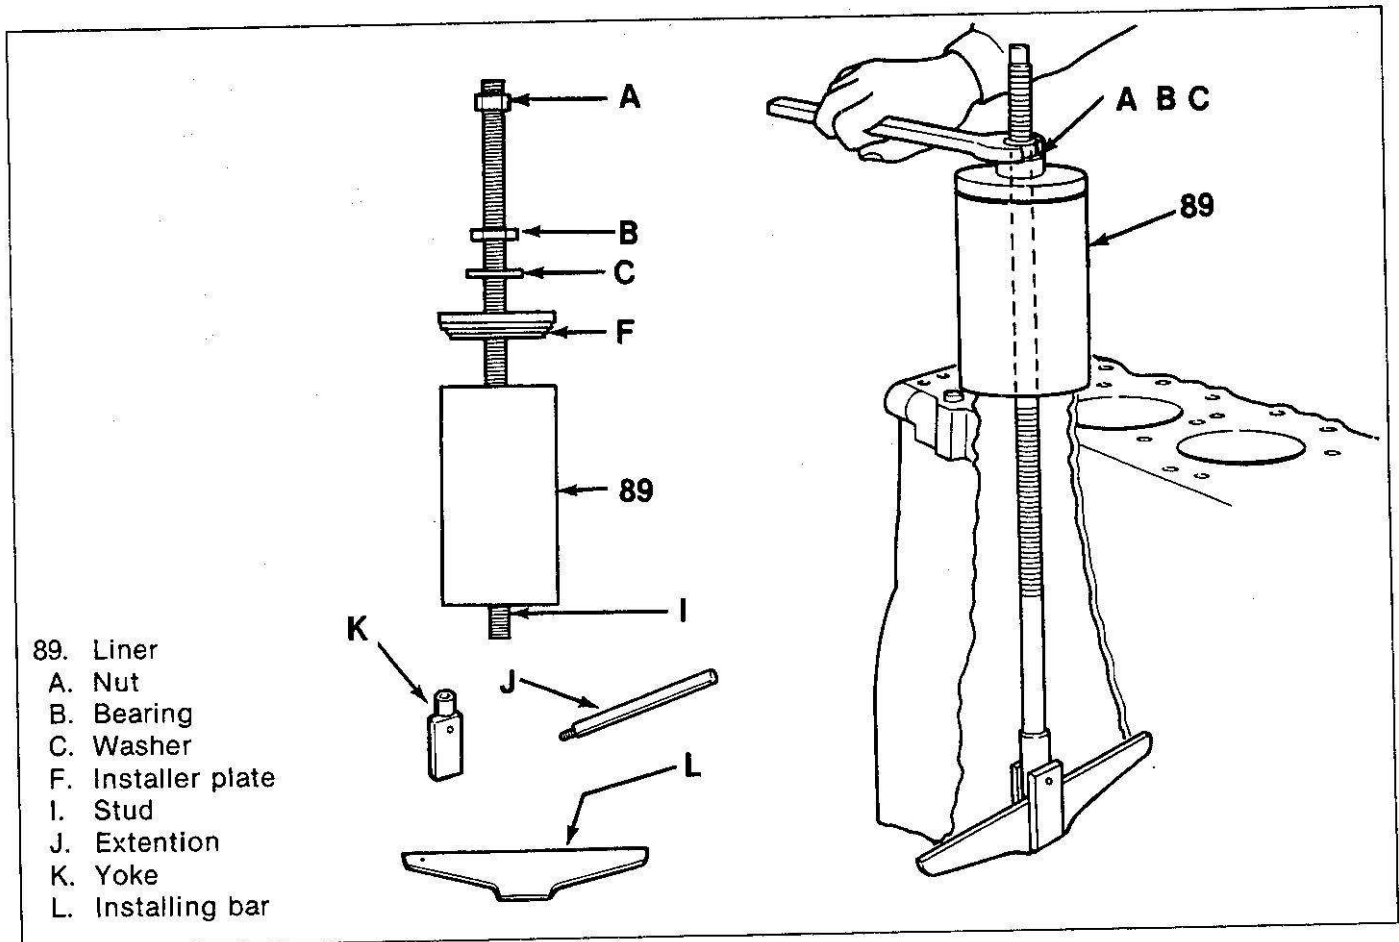
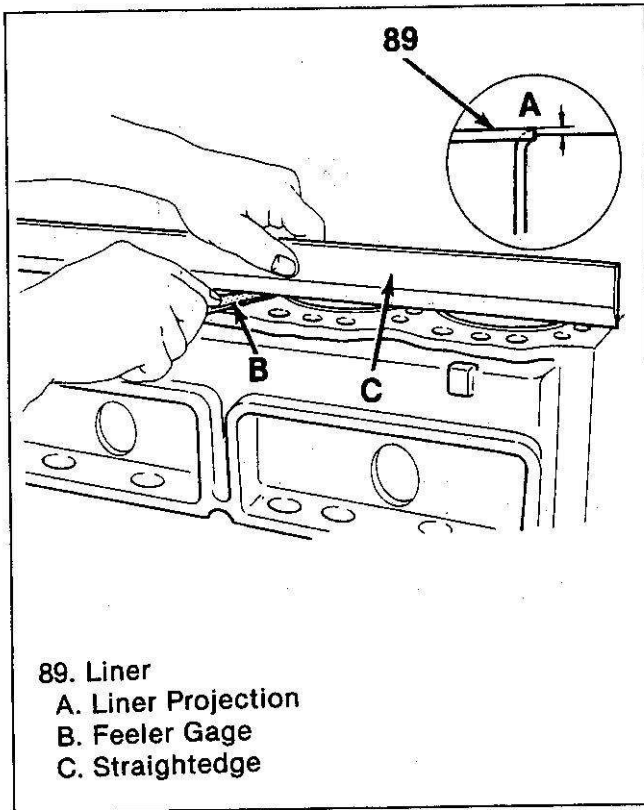

Figure 60. Installing the Cylinder Liner
Figure 61. Measuring Liner Projection
12. Assemble tool J-36520, J-37365 in the liner (89) and cylinder block as shown in figure 60.
13. Turn nut (366) until the liner (89) is fully seated into the cylinder block.
14. Measure the amount of liner projection (figure 61). Use a straightedge and feeler gage, as shown. If properly installed, the liner should project 0.03–0.10 mm (0.00120–0.039 in) above the block gasket surface.